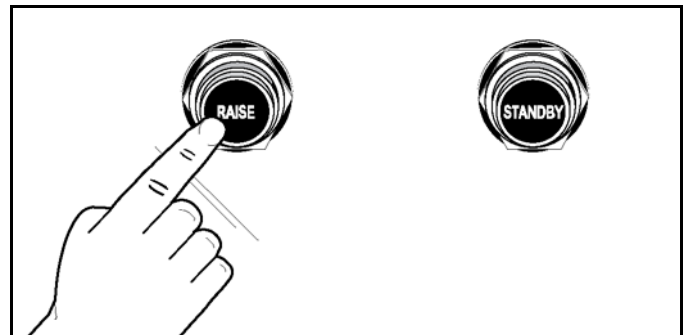

Figure-100
1. Raise the upper platen to the Open position by pressing the red RAISE button. See Figure-100.